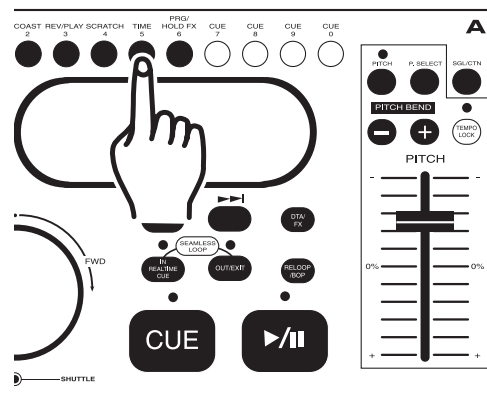

Figure 12
10. CHANGING THE TIME DISPLAY (42, 43, & 44)/TIME BAR (46):
The time may be displayed in three different modes; Elapsed, Remain, and Total Remain. During normal playback, pressing the TIME BUTTON (5) as in figure 12, will change the time display information (57, 58, & 59) in the LCD (14). The following is a break down of the time settings and their definitions:
- 1) ELAPSED (56) - This details the time in the LCD (14) as the current tracks' elapsed running time. The elapsed function only details a tracks elapsed time and not the entire disc.
- 2) REMAIN (62) - This details the time in the LCD (14) as the current tracks' remaining running time.
- 3) TOTAL REMAIN (66) - This details the time in the LCD (14) as the total disc remaining time.